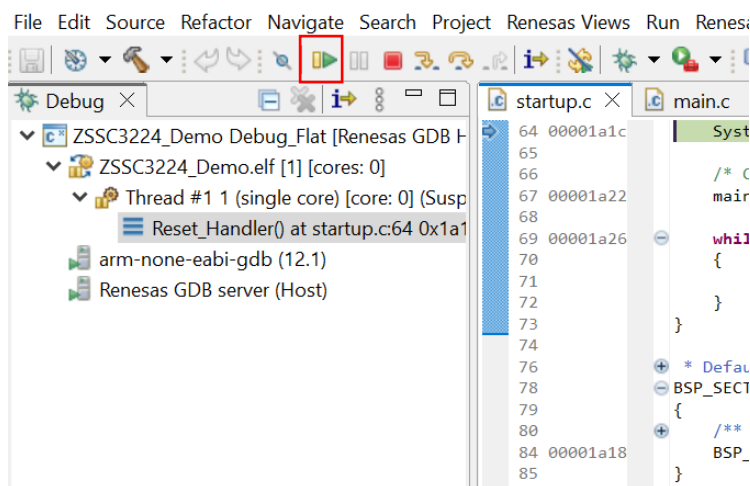

Figure 22. Running the Code
6. Click the “Play” button to run the code (see Figure 22).